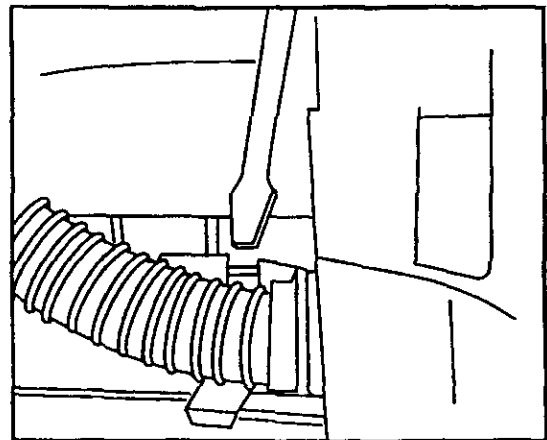

Fig. 13
- a. Release tab by pushing up and in on lower tab and then release upper tab to slip hose clear from handle (Fig. 13).